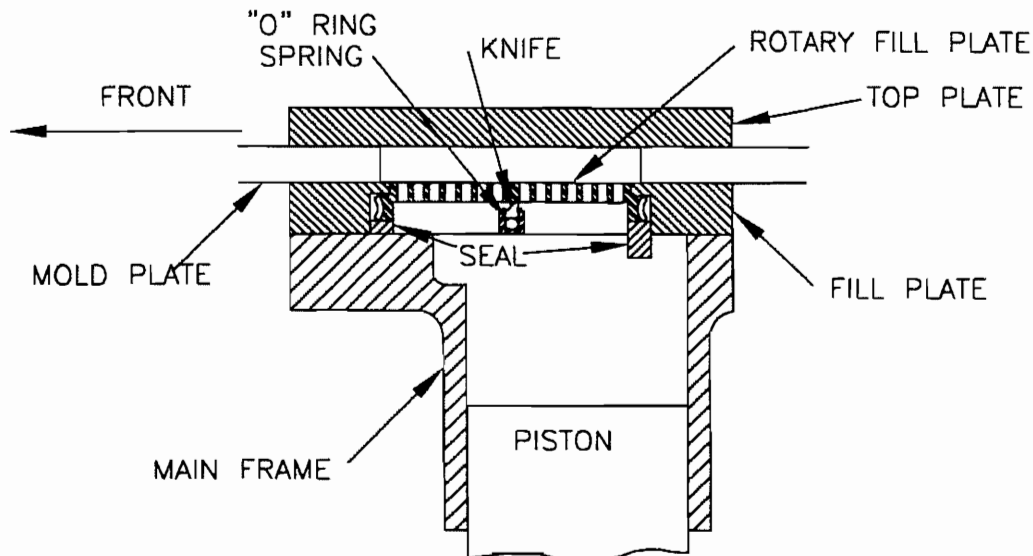

FIGURE 4
6. CAREFULLY TURN THE ENTIRE ASSEMBLY OVER AND LOWER TO THE MAIN FRAME. THE COMBINATION OF THE UNDERCUTS ON THE KNIFE HOLDER AND COMPRESSION OF THE SEAL WILL HOLD THE KNIFE ASSEMBLY IN POSITION WHILE THE FILL PLATE IS LOWERED ON TO THE MAIN FRAME. (SEE FIGURE 4)